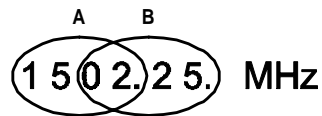

Figure 8. L-Band frequency low and high-resolution display
**L-Band frequency:** (see Figure 8) For example; if a current L-Band frequency is 1502.25 MHz, changing to Alt-1 Mode (ALT LED flashes) and pressing 4 (to display Lb1 or Lb2), and then pressing 7 displays the four most significant digits on the front panel (i.e., 1502.). At low resolution (A), pressing the up ↑ or down ↓ arrow button advances the frequency up or down in 1 MHz steps (i.e., 1503., 1504., and so on). Pressing and holding down the up ↑ or down ↓ arrow button will increase the step size further.